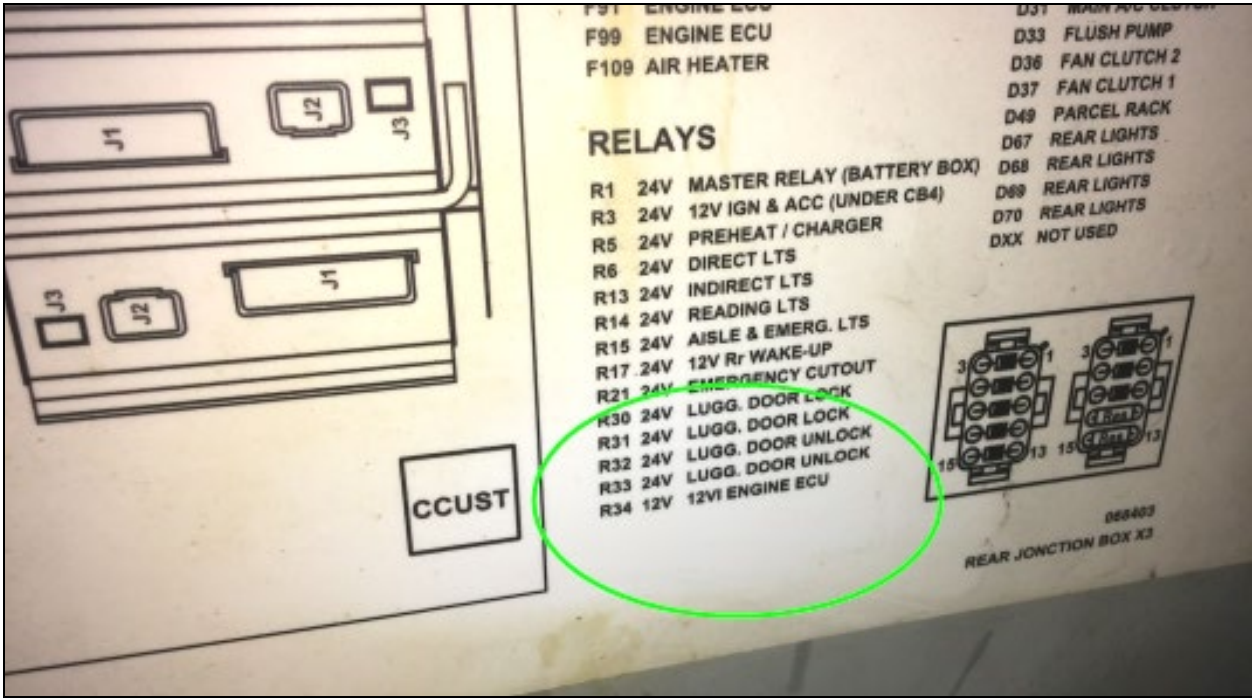

Fig.4 Cleaned area before decal application (Older X3-45 Coach Shown).
3. To ensure proper adhesion of the new decal, carefully clean the area from grease, dirt and road grime (Fig.4).